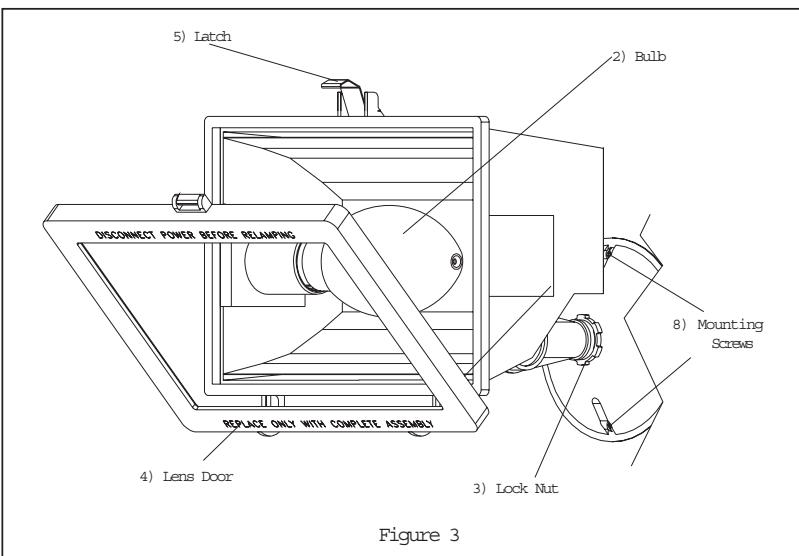

Figure 3
2. Thread Lock Nut to upper end of knuckle. See Fig. 3.
10. For lamp installation, release Latch on top of Fixture Housing to open Lens Door and install 70 Watt High Pressure Sodium Type S62 Lamp (provided). See Fig 3.
2. Rosque la Tuerca de Fijación al extremo superior del nudillo. Vea Fig. 3.